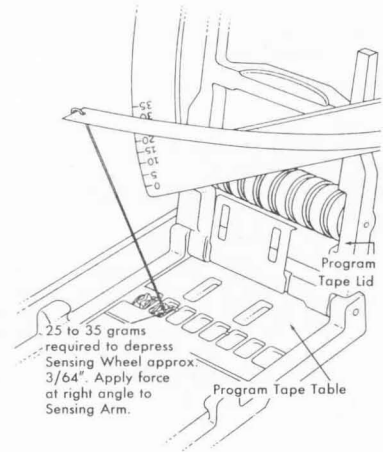

Figure 73. Gaging Contact Tension
- c. Adjust the contact-wire tension plate to obtain an average of 25 to 35 grams on a leaf gage when each sensing wheel is depressed about $\frac{3}{4}$ ". Form a paper clip into a hook and attach it to the leaf gage to assist in measuring the tension as shown in Figure 73.